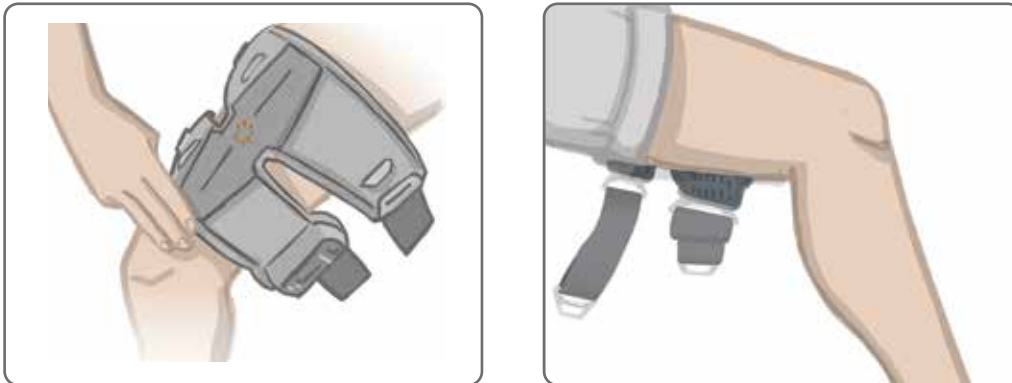

Figure 8-17: Correct Position of the Thigh Cuff Locator
- Place the Thigh Cuff locator (a tactile finger mark) on the midline of the thigh, approximately three finger widths proximal from the patella if stimulating the quadriceps or from the popliteal fossa if stimulating the hamstrings. See Figure 8-17.